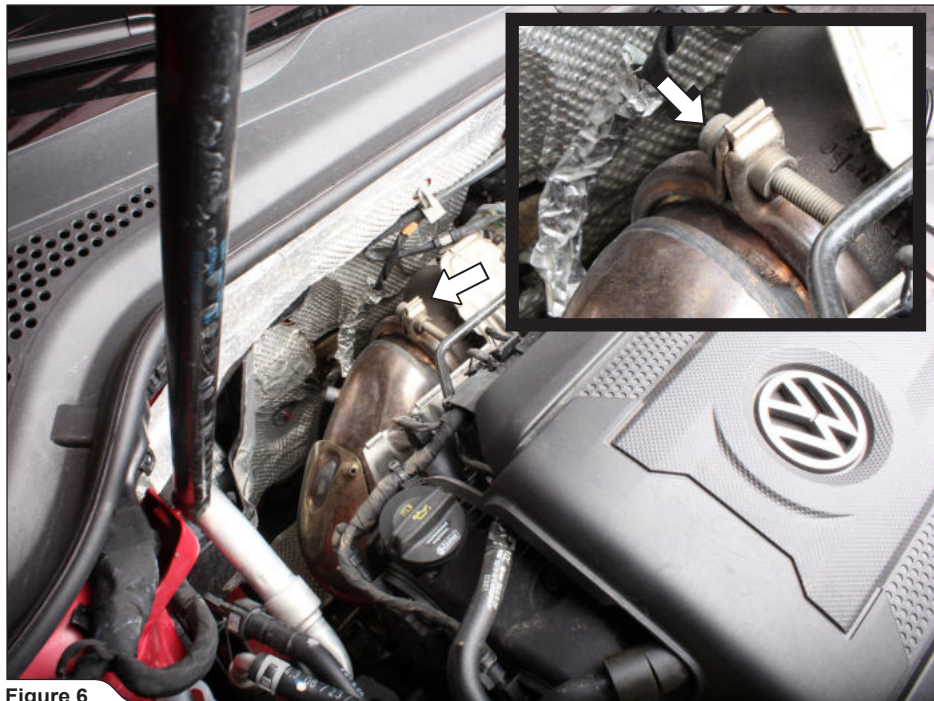

Figure 6
6. Unscrew the marked clamp in the engine compartment (**Figure 6**).